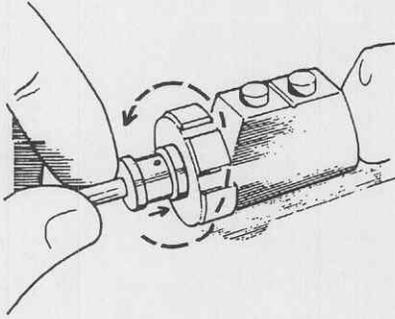

Figure 2-5. Cutter/bur insertion.
- b. Firmly insert the cutter/bur with a push/twist motion. Refer to figure 2-5.